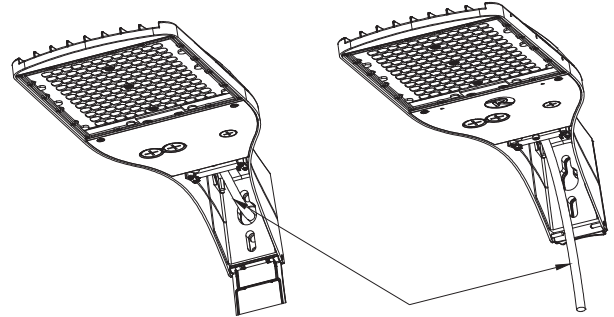

Fig 4
- 2.Pull out the fixture's internal wires through the opening.(Fig 4)